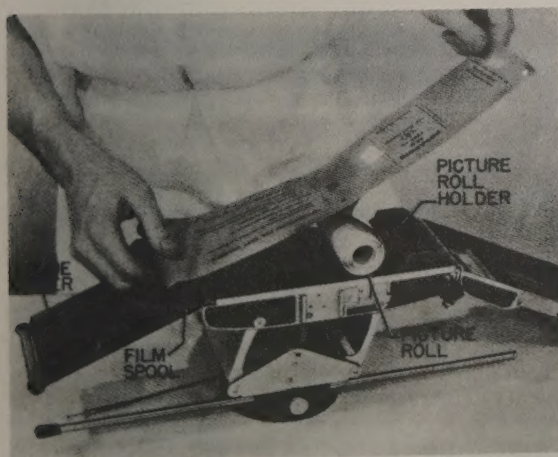

Figure 8 - Inserting Film
B. Lift the inside cover and lay it back. If camera has been used before, remove and discard empty spool. Unroll film wrapper. (Do not break Scotch Tape seals.) Place spool into holder properly. Drop picture roll into its holder. See figure 8.